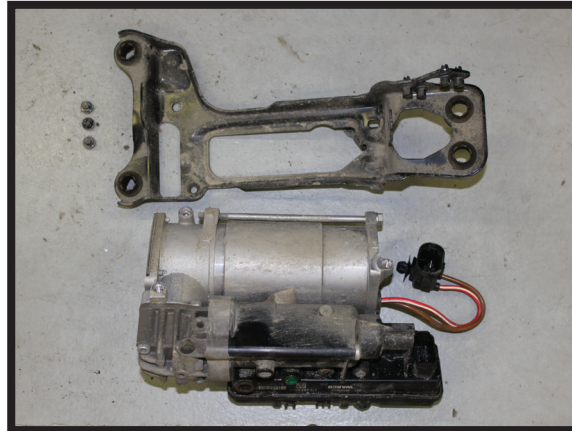

FIGURE 12
2. REMOVE INNER BRACKET BY REMOVING 3 TORX BOLTS FROM THE OPPOSITE SIDE OF THE COMPRESSOR. (FIGURE 12)